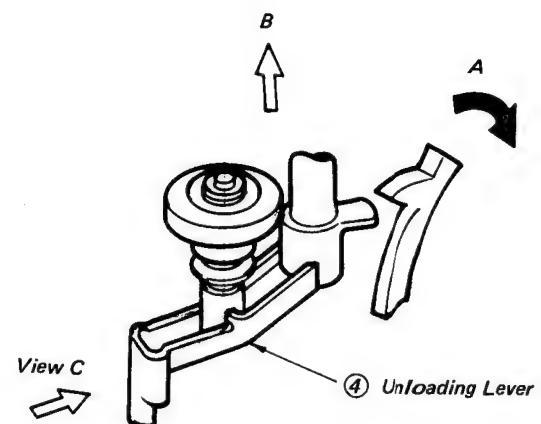

Fig. 5-41 Unloading Lever Detaching
4. Also, while pushing the reel chassis retainer pawl ② in the direction A ( $\curvearrowright$ ) as if to bend, lift the unloading lever ④ in the upward direction B ( $\uparrow$ ) to position as in Fig. 5-41.